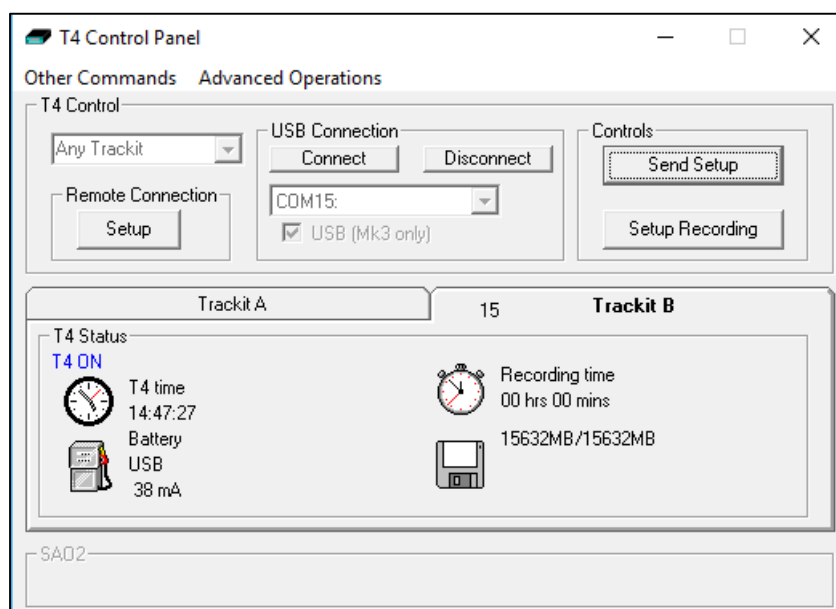

Figure 16: Trackit t4A "Status B"
Further status information is available on the 2nd tab ("Trackit B"). This includes the Trackit t4A time, Battery capacity, Recording time and SD card total and remaining capacity in (Megabytes (MB)) (see Figure 16).